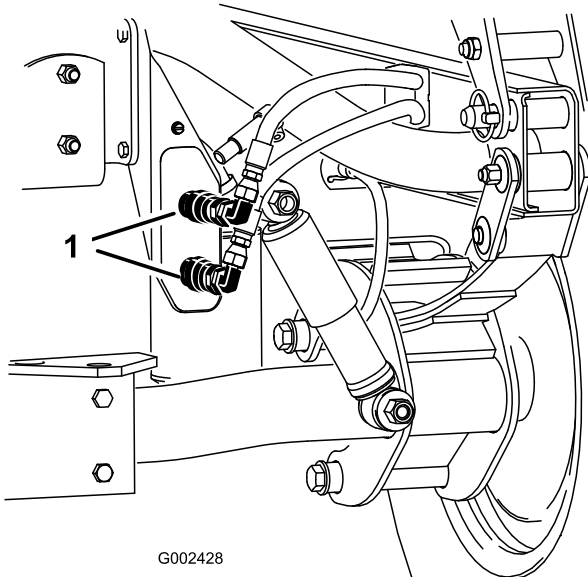

Figure 78
- On both vehicles, disconnect the two quick coupler hoses from the hoses secured to the coupler bracket (Figure 78).